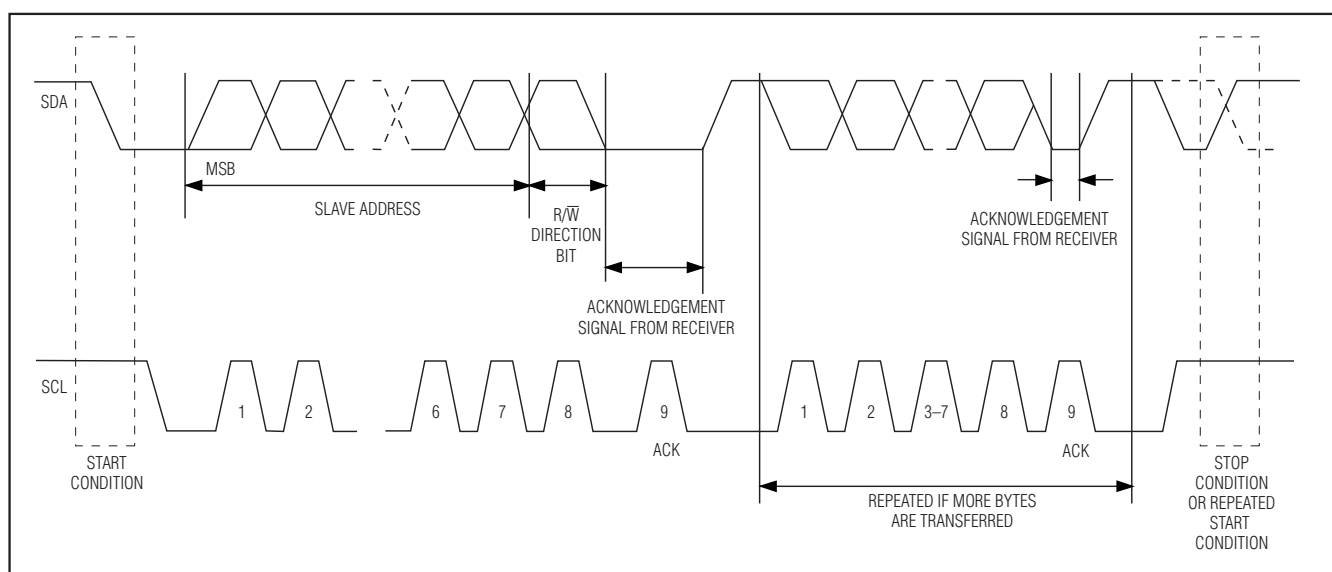

Figure 5. 2-Wire Data Transfer Protocol
**Clock and Data Transitions:** The SDA pin is normally pulled high with an external resistor or device. Data on the SDA pin may only change during SCL-low time periods. Data changes during SCL-high periods will indicate a START or STOP condition depending on the conditions discussed below. See the timing diagrams in Figures 5 and 6 for further details.
**START Condition:** A high-to-low transition of SDA with SCL high is a START condition that must precede any other command. See the timing diagrams in Figures 5 and 6 for further details.
**STOP Condition:** A low-to-high transition of SDA with SCL high is a STOP condition. After a read or write sequence, the stop command places the DS1856 into a low-power mode. See the timing diagrams in Figures 5 and 6 for further details.
The 2-wire serial-port interface supports a bidirectional data transmission protocol with device addressing. A device that sends data on the bus is defined as a transmitter, and a device that receives data as a receiver. The device that controls the message is called a master. The devices that are controlled by the master are slaves. The bus must be controlled by a master device that generates the serial clock (SCL), controls the bus access, and generates the START and STOP conditions. The DS1856 operates as a slave on the 2-wire bus. Connections to the bus are made through the open-drain I/O lines SDA and SCL. The following I/O terminals control the 2-wire serial port: SDA, SCL. Timing diagrams for the 2-wire serial port can be found in Figures 5 and 6. Timing information for the 2-wire serial port is provided in the *AC Electrical Characteristics* table for 2-wire serial communications.
**Data valid:** The state of the data line represents valid data when, after a START condition, the data line is stable for the duration of the high period of the clock signal. The data on the line can be changed during the low period of the clock signal. There is one clock pulse per bit of data. Figures 5 and 6 detail how data transfer is accom-